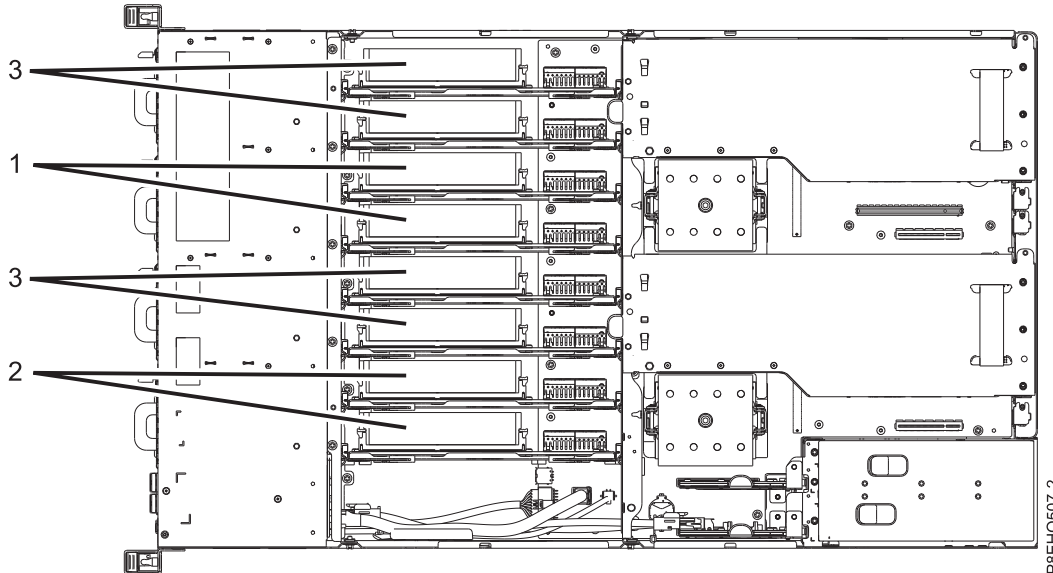

Figure 34. Installation sequence for 8335-GCA memory risers
The memory risers must be installed in the sequence: (1), then (2), then (3), as shown in Figure 34. By default, the first positions (1) are always populated.